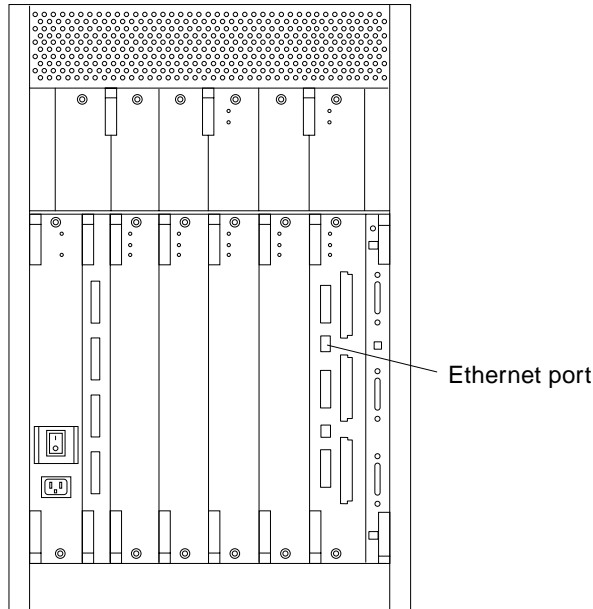

FIGURE 2-5 10/100BASE-T Ethernet Connection
2. Connect one end of the network cable into the RJ-45 twisted-pair network port. For 10/100BASE-T Ethernet, the default interface port is the onboard connector on the I/O+ board in slot 1 (FIGURE 2-5).